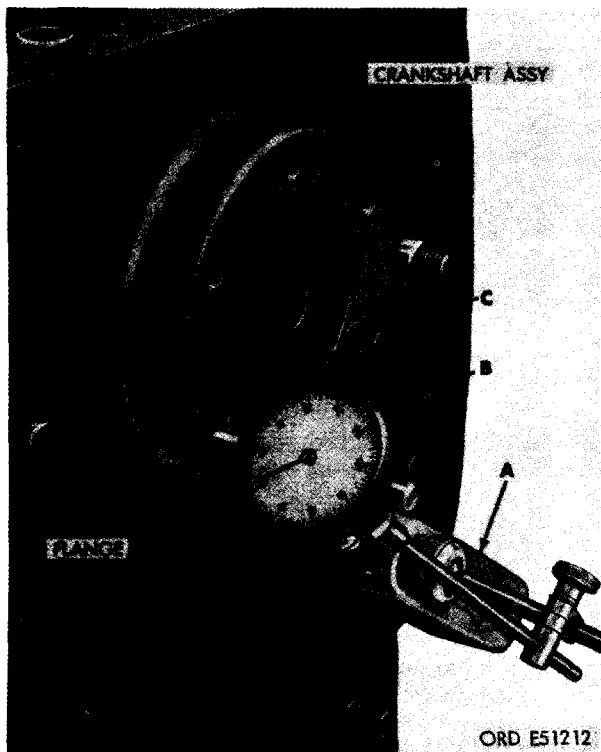

FIGURE 470. CHECKING FLYWHEEL FLANGE RUNOUT USING DIAL INDICATOR.
d. Check Flywheel Flange Runout. Figure 470. (A) Mount dial indicator on cylinder and crankcase so indicator point rests on flywheel mounting flange as shown. (B) Set indicator on zero reading ("0"). (C) Rotate crankshaft assembly and check flange runout. Runout should be within 0.002-inch total indicator reading (TIR).